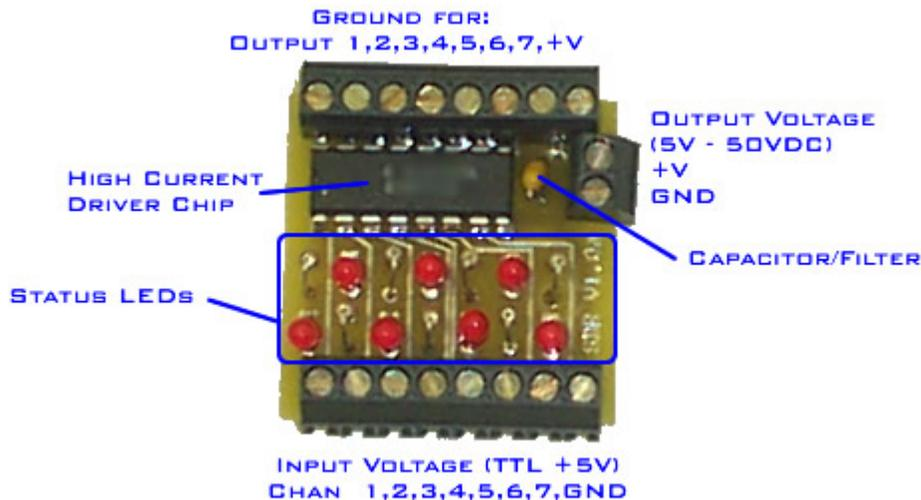

Figure 4: TTL High Current Driver with Status LEDs
1. Start by laying the board out in front of you. The Label should be on the bottom right topside. Refer to Figure 4.
2. Insert all the LEDs as shown in Figure 4 in a staggered location. The long leg of the LED should be towards the TTL Input edge of the board (they will not work if put in the other way).
3. Insert all the resistors as shown in Figure 4. The orientation of the resistor is not important.
4. Insert the capacitor as shown in Figure 4. Orientation is not important.
5. Install the Screw Terminals (if provided) as shown in Figure 4.
6. Insert the high current driver IC. The orientation is important. The chip will be shorted and will not work if put in wrong. Pin one goes in the square pad hole such that the notch on the chip is closest to the label on the board. Refer to Figure 4.
7. Attach 5-50VDC to the Output Voltage using the polarity shown in Figure 4. Turn on the power, no sparks or smoke should appear at this time.